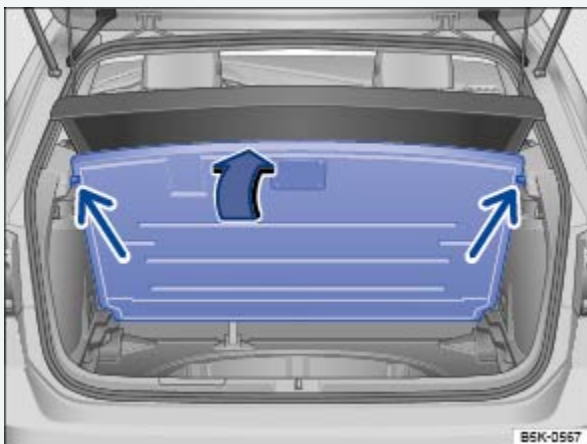

Fig. 216 In the luggage compartment: Floor covering raised and secured.
- Lift the floor covering and secure it in the stops on either side of the luggage compartment ⇒ Fig. 216 (small arrows).